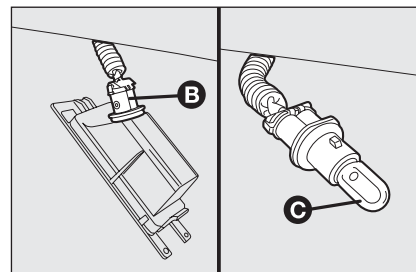

fig. 34
- ☐ turn the bulb holder **B**-fig. 34 clockwise and take the bulb **C** out.